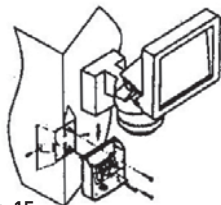

Fig. 15
- Proceed as for (Ae) above, finally fixing the corner mounting adapter and backplate assembly onto the corner using the 2 pan head screws supplied and wall plugs if necessary. The holes used are on the outside edges of the corner mounting adapter. (See Fig. 15).